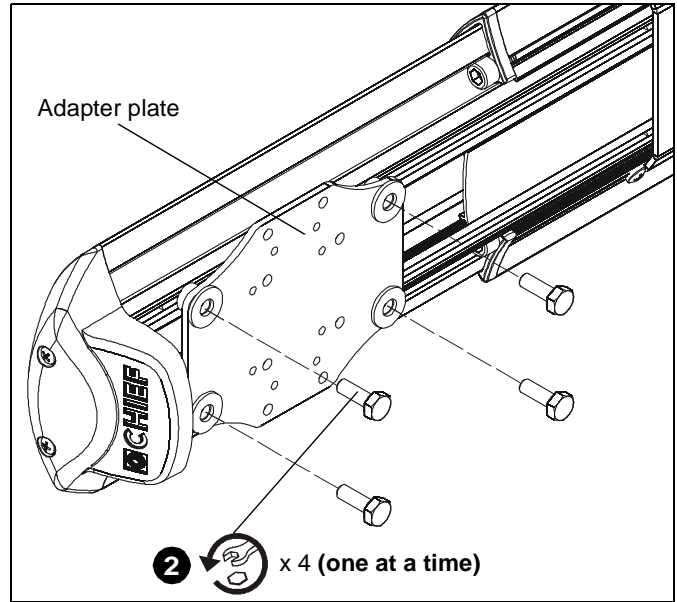

Figure 49
2. Remove one of four bolts from adapter plate. (See Figure 49)